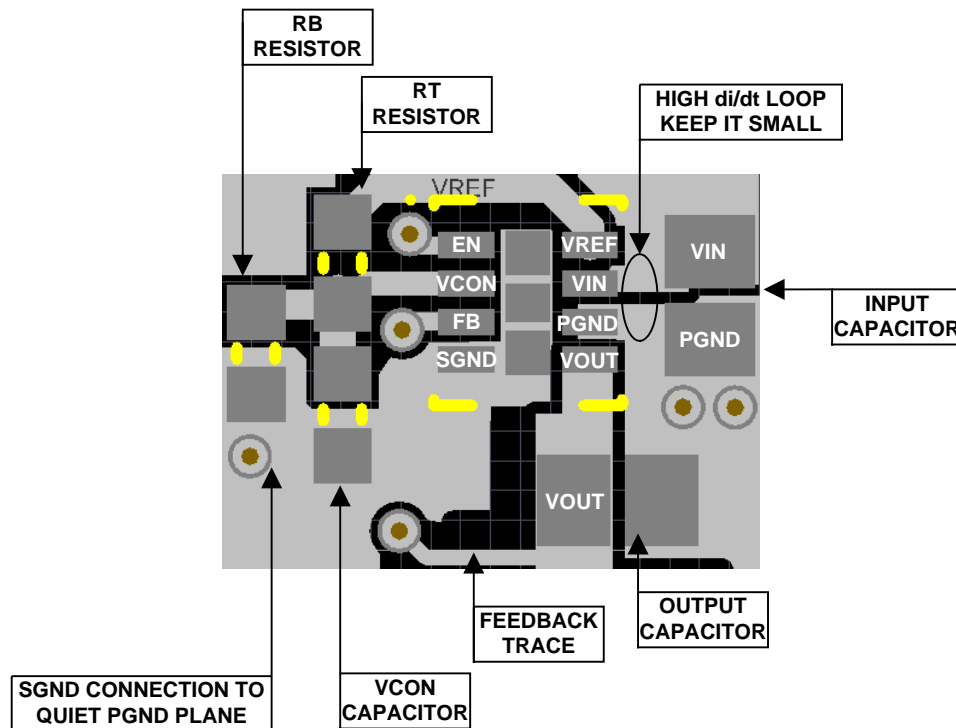

Figure 39. Example Top Layer Board Layout
The LMZ10501 integrates the inductor and simplifies the DC-DC converter board layout. Refer to the example layout in Figure 39. There are a few basic requirements to achieve a good LMZ10501 layout.
2. Place the V_{CON} filter capacitor C_{VC} and the R_B R_T resistive divider as close as possible to the V_{CON} and SGND terminals. The C_{VC} capacitor (not R_B) should be the component closer to the V_{CON} pin, as shown in Figure 39. This allows for better bypass of the control voltage set at V_{CON} .